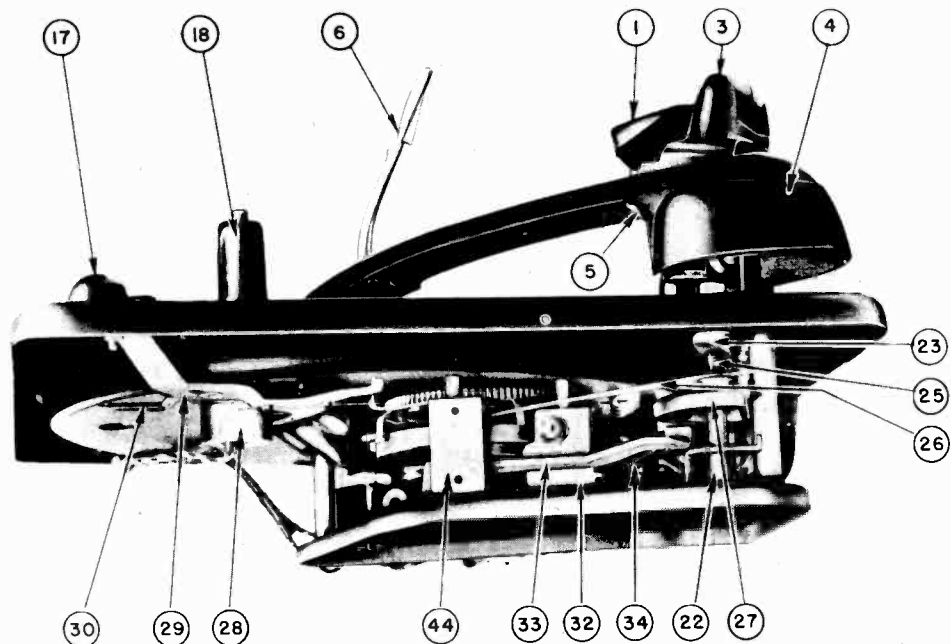

FIG. 6 - PARTS LOCATION -- RIGHT SIDE VIEW
- 2 - Pickup Arm Shaft (Illus. 22 Fig. 6). Apply one drop each to bottom bearing point, bracket hole and hole through Main Base Plate.